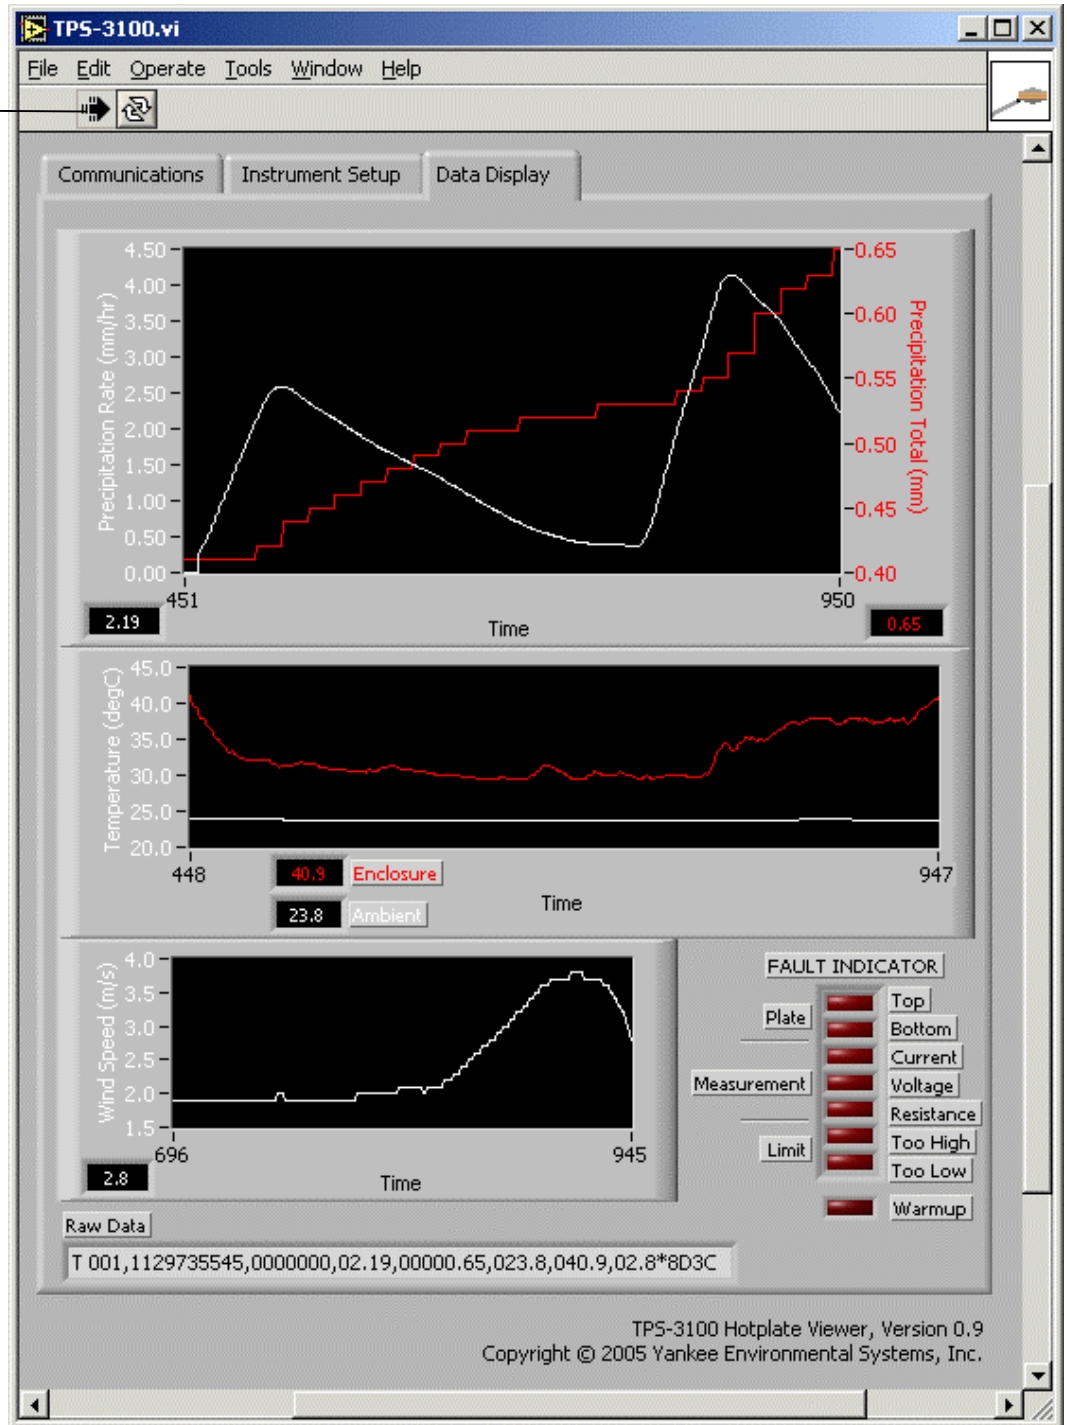

Figure 6. TPS-Manager real time display (note display varies with version).
- 4 As shown in Figure 6, click on the *start* to initiate operation.